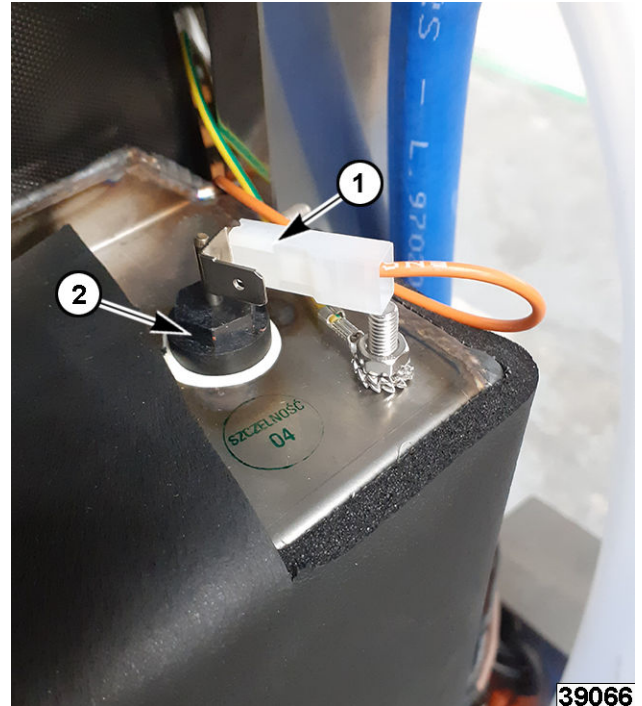

Fig. 48
4. Note and disconnect water level sensor (2, Fig. 48) wire connector (1, Fig. 48).